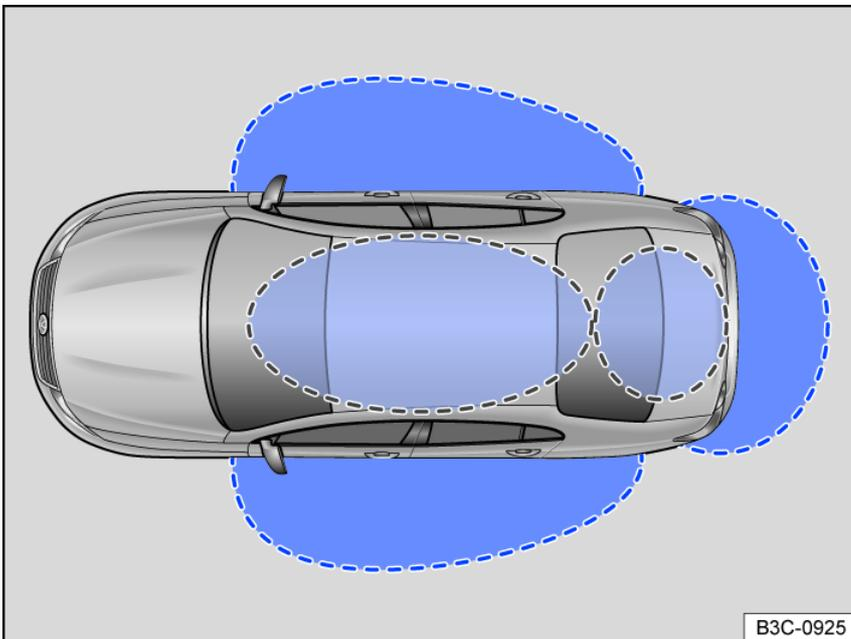

Fig. 54 Keyless Access: sensor range.
- Touch the sensor fig. 54 **A** on the inside of the door handle.
- Touch the sensor fig. 54 **B** on the outside of the door handle.
- Then touch the sensor on the outside of the door handle one time within five seconds after locking the vehicle fig. 54 **B**. Do not grasp the door handle during this process.
- Hold your finger on the driver's or front passenger's door handle sensor fig. 54  for several seconds until the windows and power sunroof are closed.